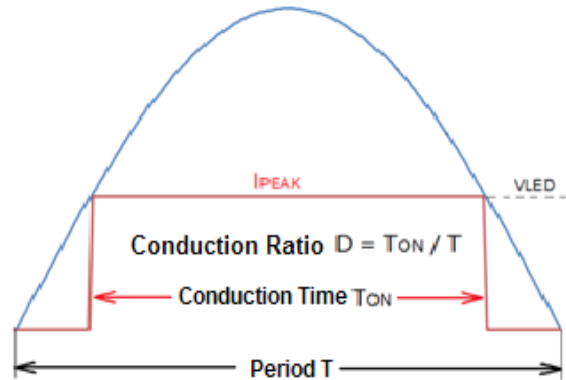

Fig.2 LED conduction procedure
Refer to Fig.2, MT7604 automatically turns on the LED string following the input sine wave. When the input voltage rises and reaches to the LED conducting voltage V_{LED} , The LED string is turned on. Since then, the input voltage continues rising, the LED string voltage keeps stable, the internal MOSFET bears the superfluous voltage drop. If the input voltage drops, the procedure is reversed. So high LED voltage makes the LED availability to be low, and low LED voltage will reduce the system efficiency. It is recommended to choose about 120V high-voltage LED string in 120VAC applications; And to choose about 250V high-voltage LED
Fig.2 shows the LED conduction procedure, MT7604 actually controls the LED peak current during the conduction-time.
- 1) No large electrolytic capacitor is needed after the rectifier bridge, as shown in Fig.2. At the valley, the input voltage is lower than LED string forward voltage, the output current is zero. When the input voltage is higher than the LED string forward voltage, the output current is I_{PEAK} . So, in the real application, the LED string current is discontinuous, and the I_{LED} is the average LED string current.